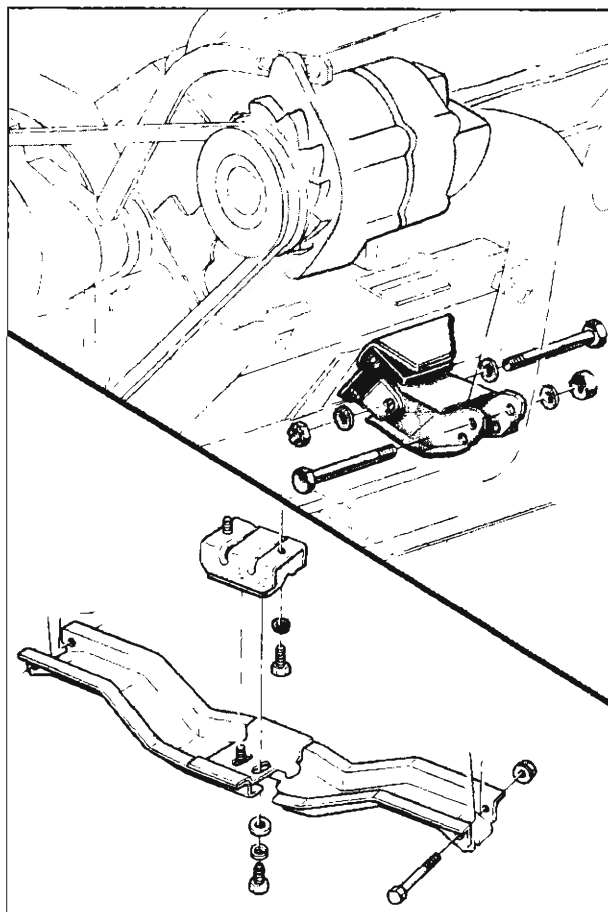

Fig. 20V—Engine Mounts (Chevy II)
**Chevy II (Fig. 20V)****Front Mount Replacement**